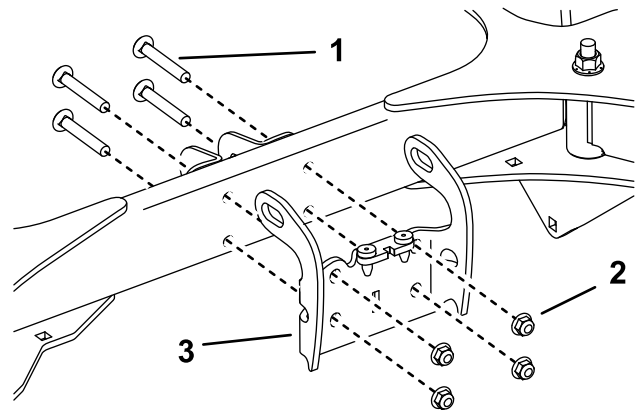

Figure 4
1. Remove the 4 carriage bolts (3/8 x 2-1/2 inches), 4 nuts (3/8 inch), and the existing lock bracket (Figure 4).